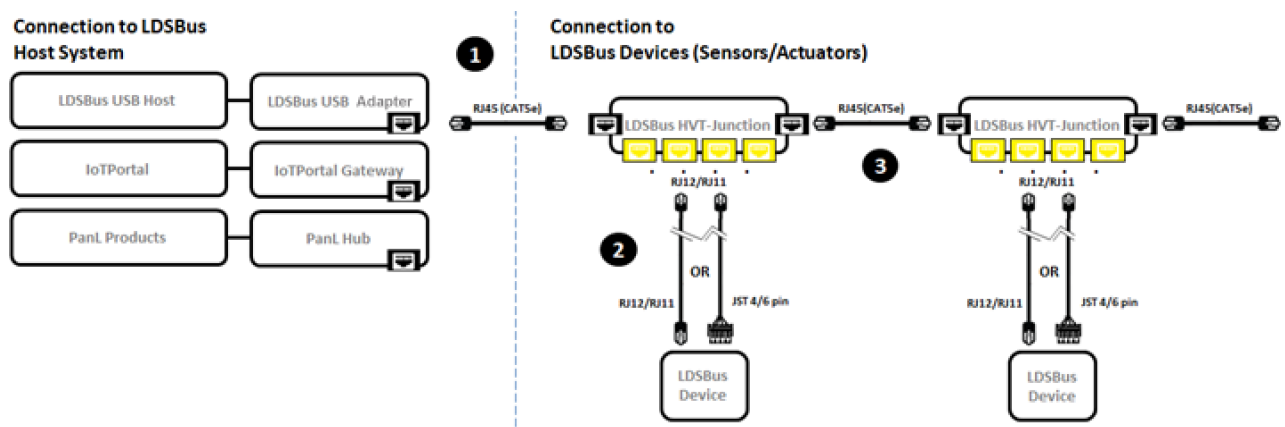

Figure 2 - LDSBus pH Sensor Adapter to LDSBus - Connection Diagram
Figure 2 illustrates the connection of the LDSBus pH Sensor Adapter (LDSBus Device) to the LDSBus. Please visit <http://bit.ly/ldsbus-resources> to view the full device application, setup and installation guides.
2. Connect the configured LDSBus pH Sensor to the LDSBus HVT-Junction as shown in Figure 2.
3. If there is more than one LDSBus HVT-Junction, chain them together as shown in Figure 2.